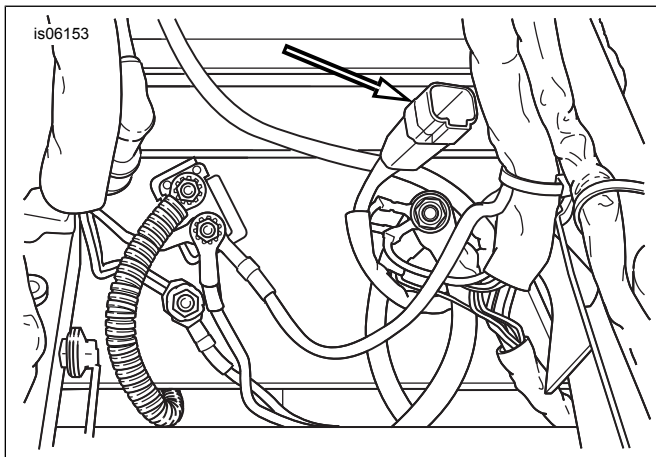

Figure 2. Accessory Connector [4] Location Under Seat
2. Locate the four-way accessory connector [4] in the area under the seat. See Figure 2. Remove the plug from the accessory connector. Connect the luggage rack light extension wire harness (7) to the accessory connector.